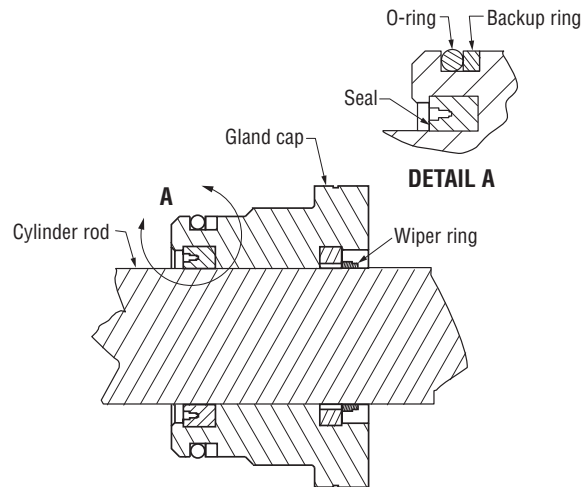

Figure 5-8, Gland Cap Seal
- Install the seals and wipers in the gland cap. Note the direction of the seals. The cupped side or O-ring side of the seal should be facing the piston. (Figure 5-8)